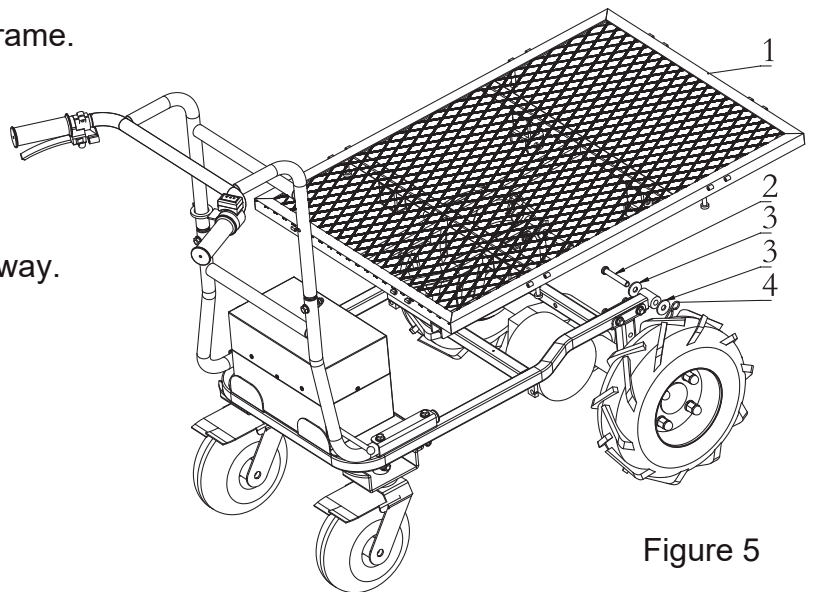

Figure 5
1. Place the main frame (1) on the base frame.
2. Insert the bolt (2) through an M10 flat washer (3), and the fixing hole, and then an M10 flatwasher (3), and use the b-pin (4) of 3.2 \* 62 to attach the bolt (2).
3. The other side is installed in the same way. **(See Figure 5)**